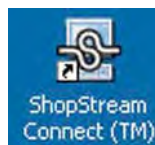

Figure B-7 Sample ShopStream Connect Desktop icon
A ShopStream Connect shortcut icon is added to your desktop (Figure B-7), double-click the icon to launch the ShopStream Connect software.
4. Double-click the desktop icon to launch ShopStream Connect (Figure B-7).